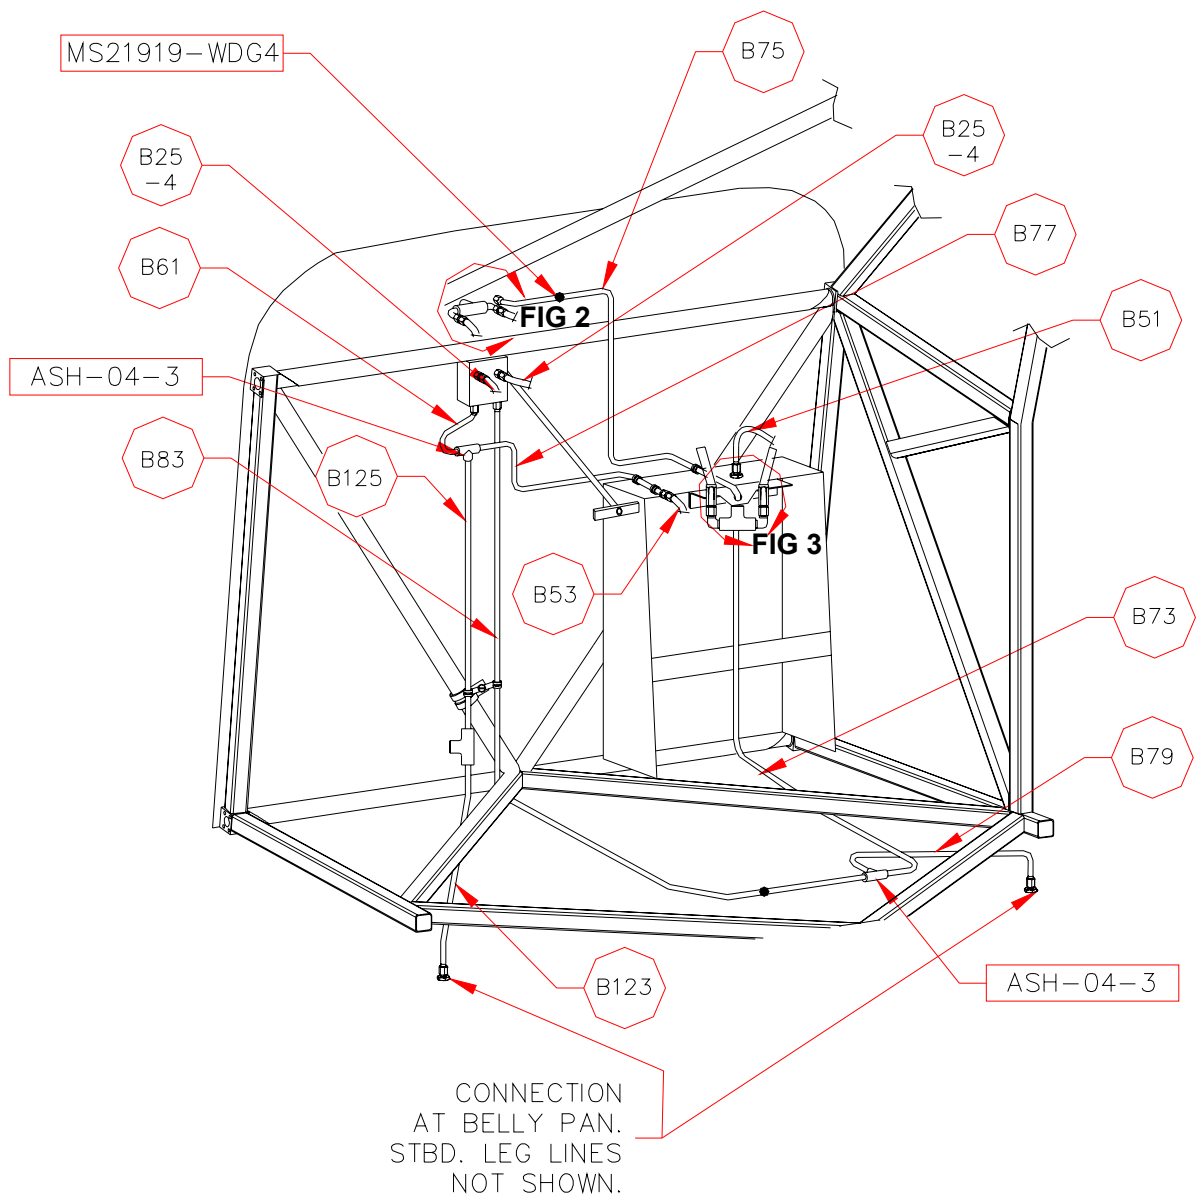

FIGURE 1 EXISTING GENERAL DAUL BRAKE CONFIGURATION
6. Remove and discard B105 manifold, see Figures 1 and 3.
7. Remove and discard B85 bracket, see Figures 1 and 3.
9. Remove and discard B75 brake line. Note, the line is secured to the top of the control consol with a #4 Adel clamp. The bolt to which the Adel clamp is attached may drop free of the consol when the clamp is removed. Secure the bolt "in place" temporarily until this clamp is reinstalled later in this procedure. See Figure 1.
13. Remove and discard B77 brake line and Adel clamp. See Figure 1. Note, reuse clamp hardware to reseal hole in header tank case.
15. Remove and discard shuttle valve, (P/N ASH-04-3), associated with B61. See Figure 1.